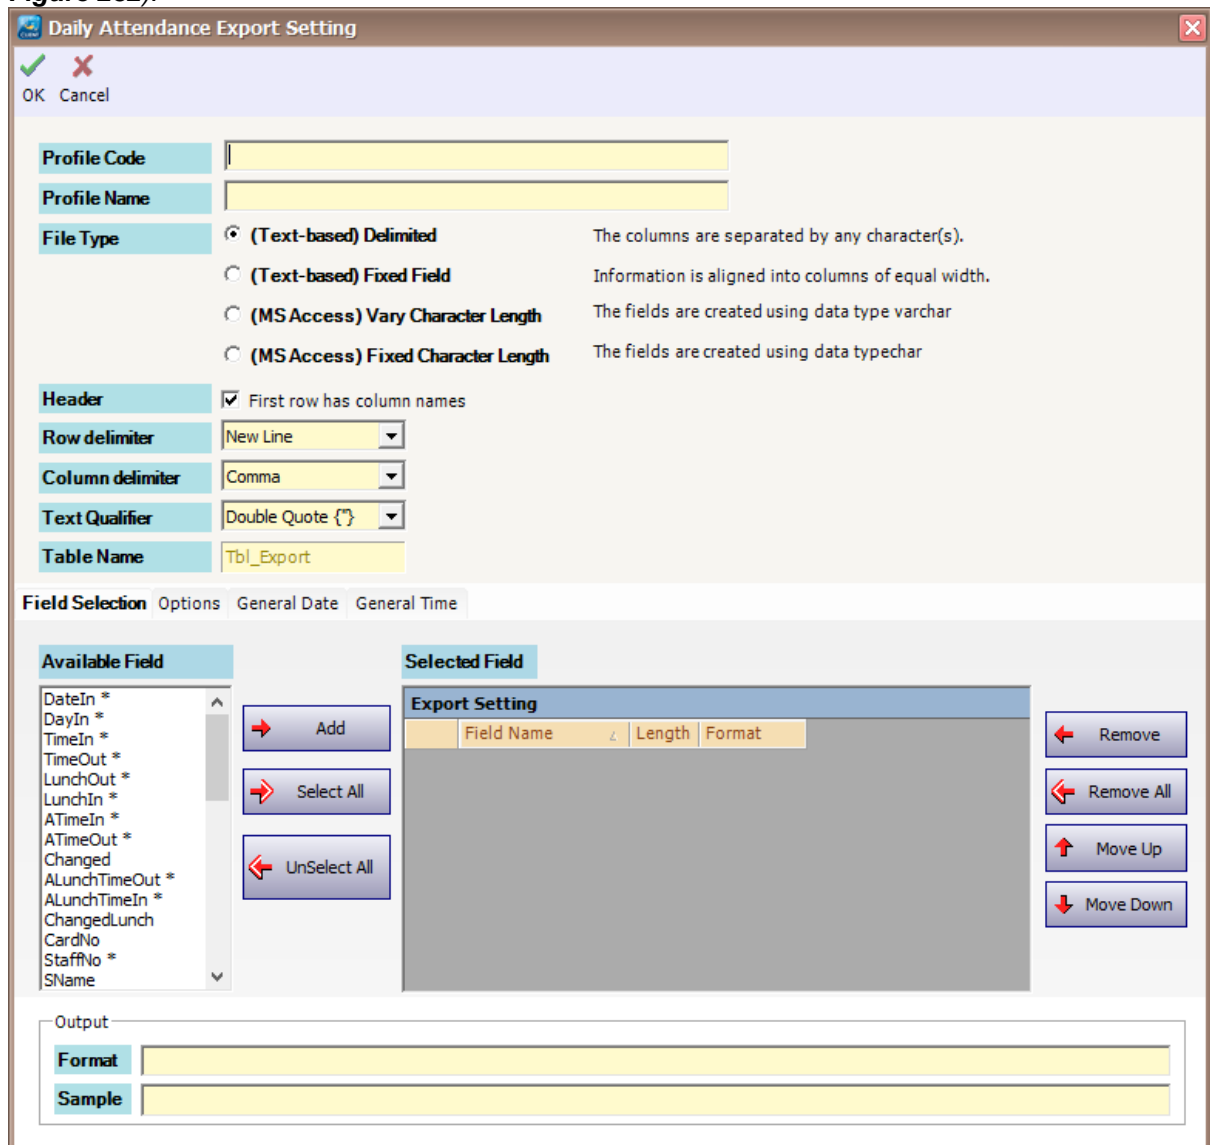

Figure 232 - Add Daily Attendance Export Setting
8. To add a new export setting, click on Add button. The following window will be shown (*Refer Figure 232*).